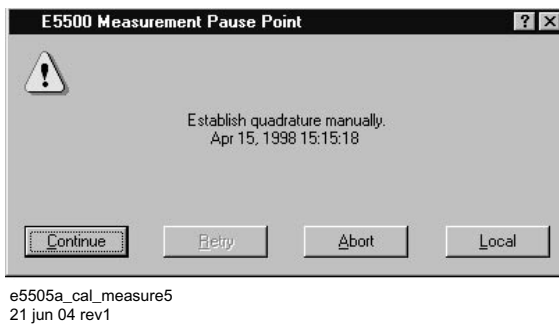

Figure 215 Calibration measurement (5 of 5)
- The calibration procedure determines the discriminator constant to use in the transfer response by measuring the system response to a known FM signal. Refer to Figure 211 on page 278 through Figure 215 on page 279.